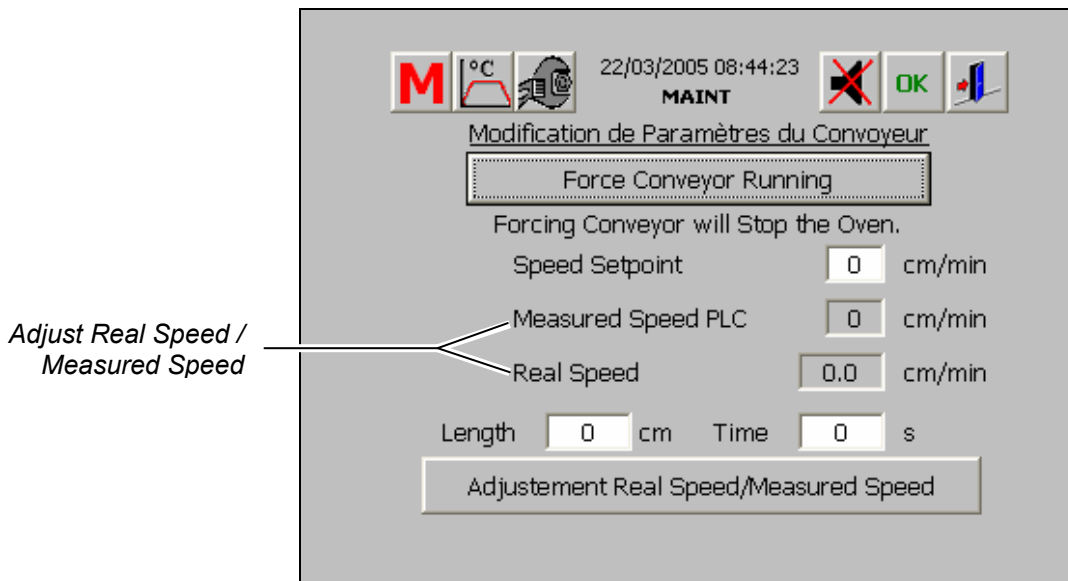

Figure 6-30 Force Conveyor Running Screen
3. When the measurement is finished, check the real speed against the measured speed (Figure 6-30). If the real speed is different from the measured speed, enter the **Real Speed** of the conveyor. Next, click on the **Adjustment Real Speed/Measured Speed** button. The PLC will automatically correct the calculation of the measured speed.